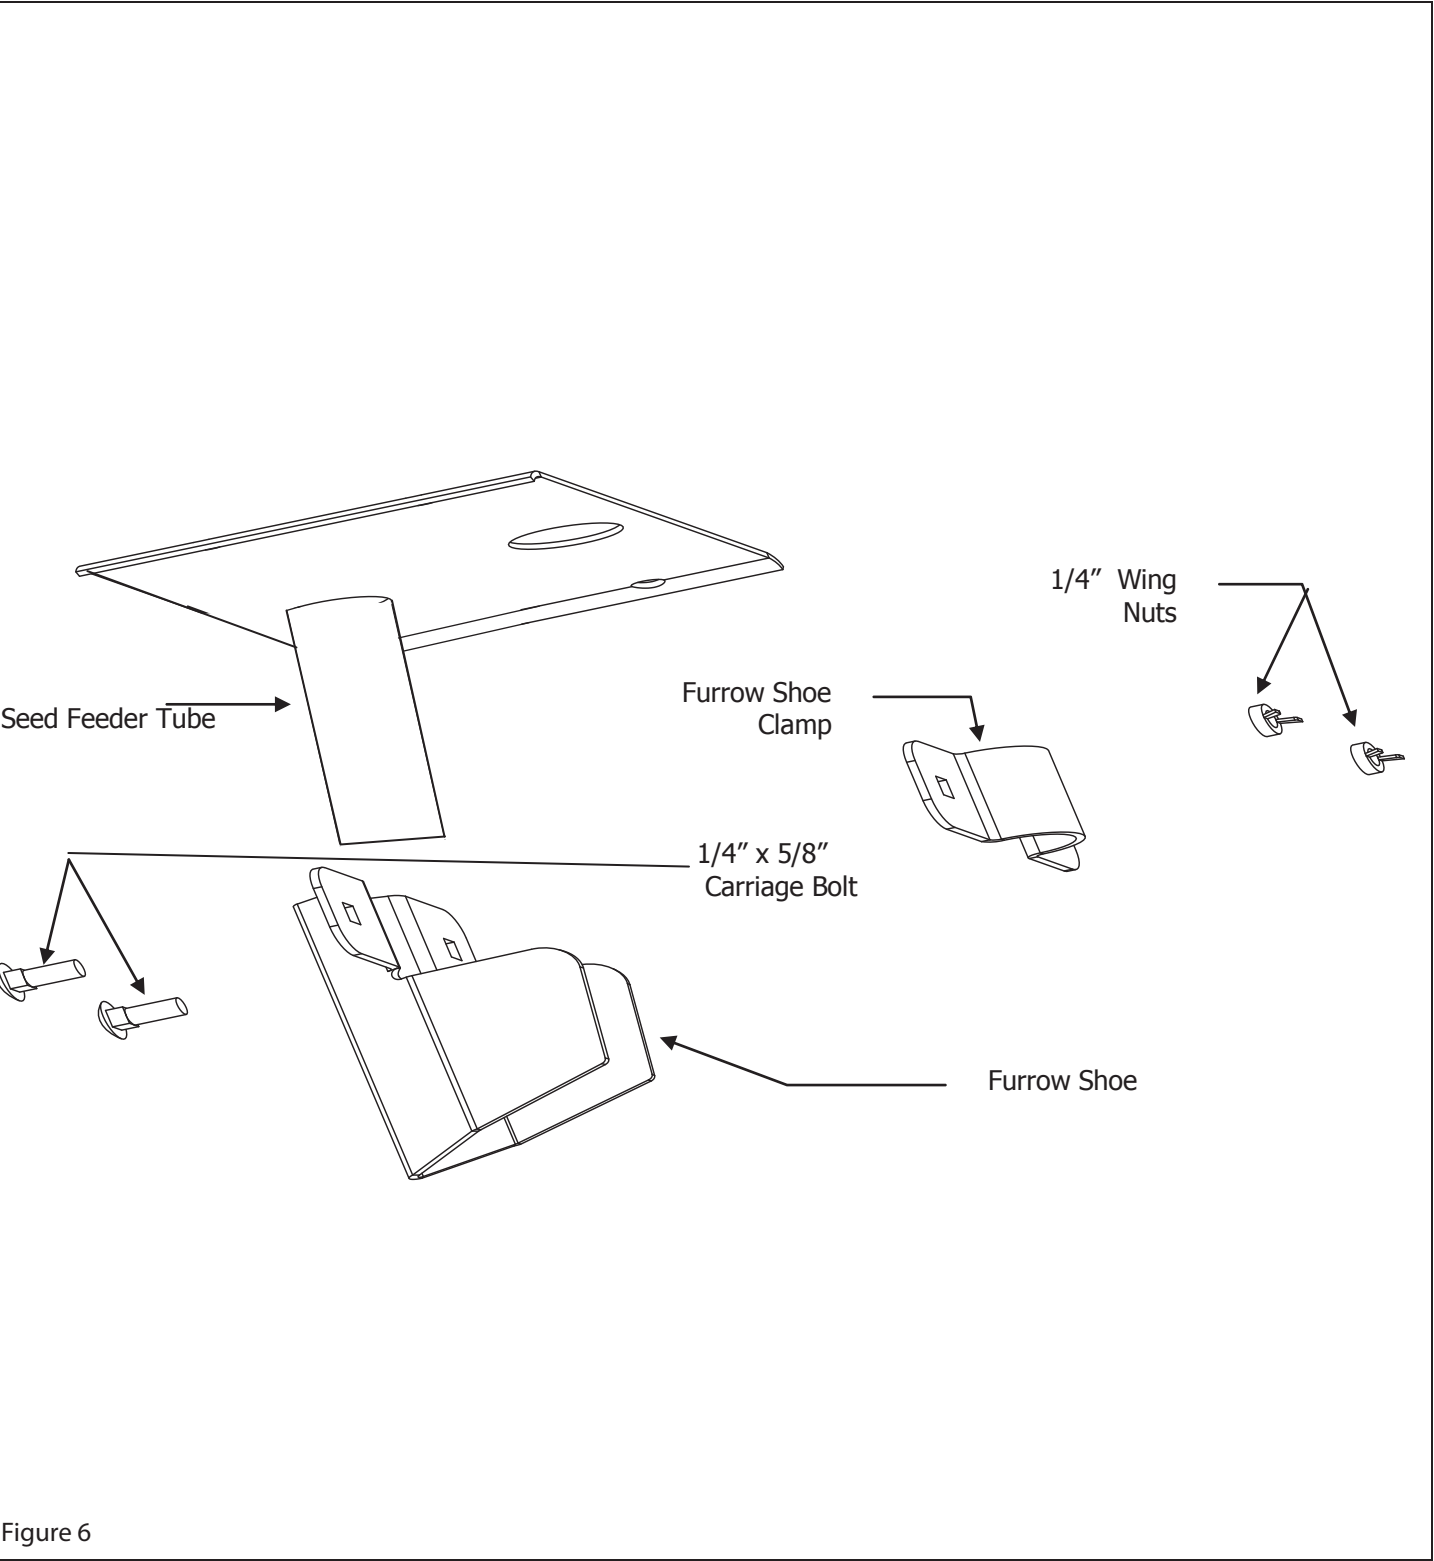

Figure 6
- 6. Take Furrow Shoe and Furrow Shoe Clamp, joining them together using two 1/4" x 5/8" Carriage Bolts and two 1/4" Wing Nuts. Do not tighten until you place them onto the Seed Feeder Tube and set at the appropriate height. See Figure 6.